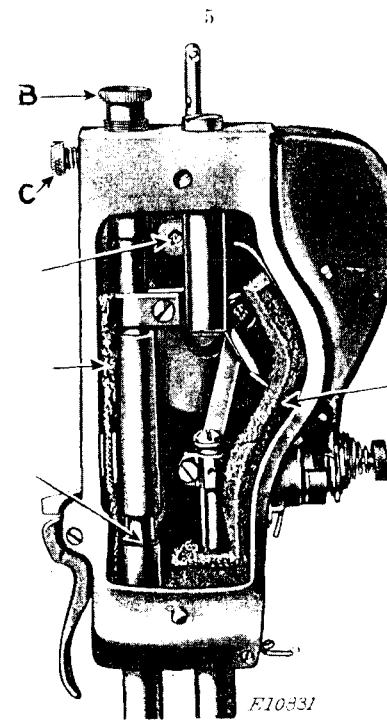

Fig. 4. End View of Machine, Showing Oiling Points
The pressure of the presser foot on the material is regulated by the thumb screw (B, Fig. 4) at the top of the machine. To increase the pressure, loosen the set screw (C, Fig. 4) at the back of the machine and turn the thumb screw (B) downward. To decrease the pressure, turn the thumb screw (B) upward. When the required amount of pressure is obtained, tighten the set screw (C) at the back of the machine.